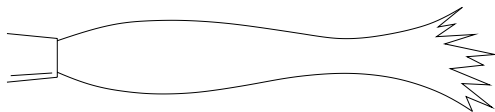

Figure 4.1. Pure Acetylene Flame
1. Open fuel valve about 1/8 of a turn. Without delay, ignite gas with a sparklighter or pilot light. **DO NOT USE MATCHES.** (Figure 4.1).